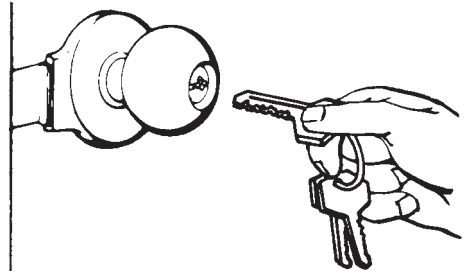

Figure 13.2 Are you using the right key?
- Are you using the right key (Fig. 13.2)?